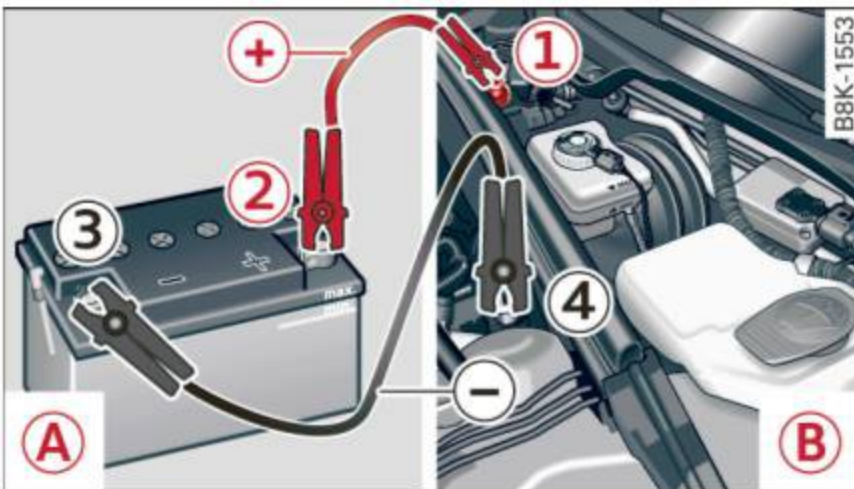

Fig. 186 Jump starting with the battery of another vehicle: (A) booster battery, (B) discharged vehicle battery
1. Connect one end of the red positive cable on the **jump start bolt** ⇒ *fig. 186* (1) (Bolts under cover = "positive") of the vehicle to be started (B).
2. Connect the other end to the positive terminal (2) of the booster battery (A).
- Please note that the procedure for connecting a jumper cable as described above applies specifically to the case of your vehicle being jump started. When you are giving a jump start to another vehicle, do *not* connect the negative (-) cable to the negative (-) terminal on the discharged battery ④ ⇒ fig. 186. Instead, securely connect the negative (-) cable to either a solid metal component that is firmly bolted to the engine block or to the engine block itself. If the battery that is being charged does not vent to the outside, escaping battery gas could ignite and explode!